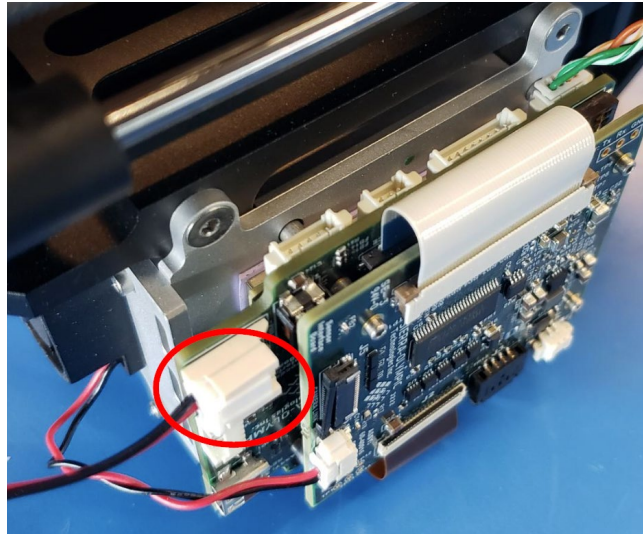

Figure 2: Power Connection
- 6.2.1 Connect a Sherlock-terminated power cable to J1 as shown in Figure 2. The nominal input voltage is 12VDC (max 14V) with a minimum 3A supply.